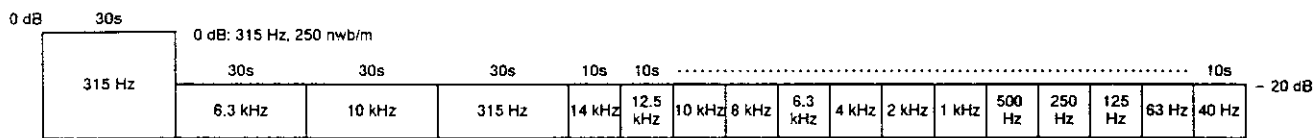

Fig. 7-7 Constants of the test tape STD-331E
- STD-331E : Playback adjustments (See Fig. 7-7)